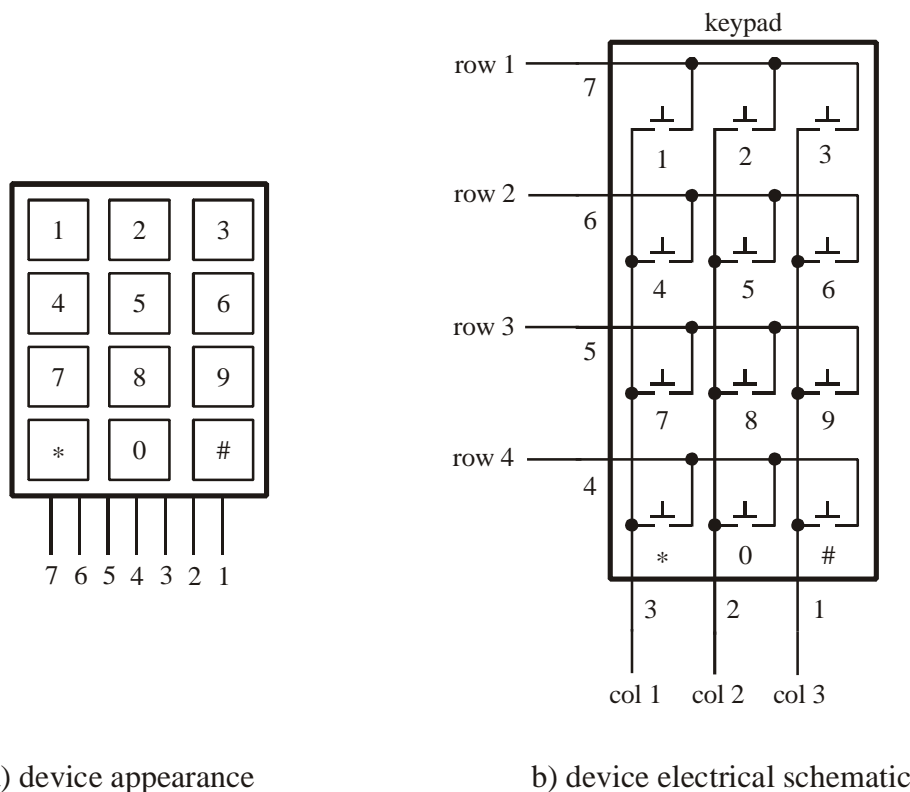

Figure 11.3 Standard 12-key numeric keypad
Figure 11.3 illustrates the appearance and electrical schematic for a common 12-key **numeric keypad**; although, the pin numbering isn't always consistent from one manufacturer to another. When interfaced to a microcontroller, a keypad allows a user to input numeric data. A keypad can also be used simply as a set of general-purpose normally-open (NO) pushbutton switches. The standard method to interface a keypad to a microcontroller is to attach the four row pins to inputs of the microcontroller and attach the three column pins to outputs of the microcontroller. By polling the states of the row inputs while individually changing the states on the column outputs, you can determine which button is pressed. See Section 7.7.1 in the textbook for more information. An alternative method to interface the keypad, if you do not have the luxury of seven spare I/O lines, is to wire the keypad through a set of resistors in series with a capacitor to ground. This allows you to use the PicBasic Pro "Pot" command to determine which button is pressed by reading the effective resistance of the keypad through a single pin of the microcontroller. The circuit presented in the next section uses this method.